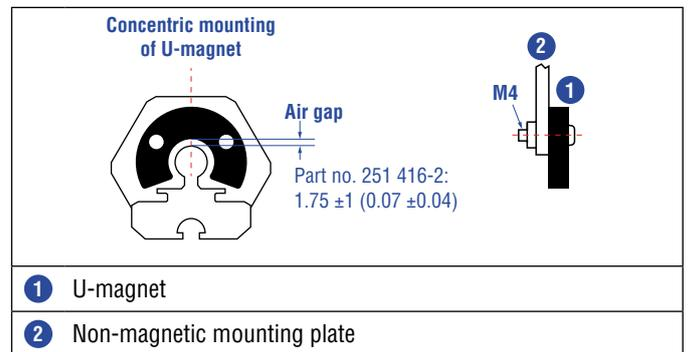
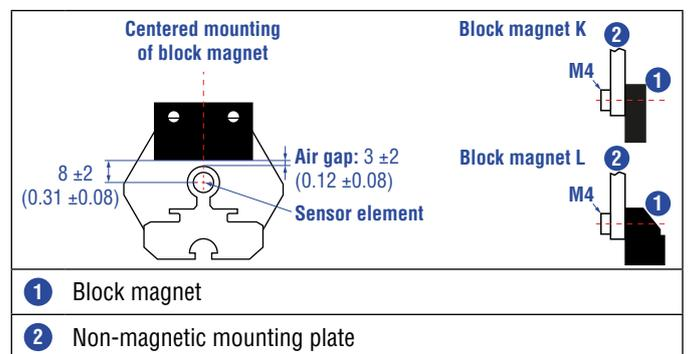

Fig. 65: Mounting of U-magnet (part no. 251 416-2)
Fig. 66: Mounting of block magnet K (part no. 251 298-2) and block magnet L (part no. 403 448)
- The maximum permissible air gap must not be exceeded (Fig. 65/ Fig. 66). Take care to mount the primary sensor axis in parallel to the magnet path in order to avoid damage to the carriage, magnet and sensor rod/sensor profile.